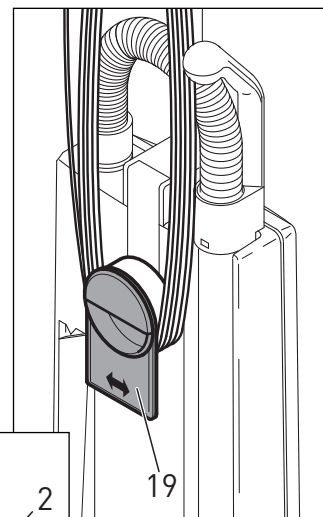

Figure 1
## Starting The Machine - Figures 1 & 2
1. Turn the quick release cable hook (#19, figure 1) to the up position by moving it to the left or right.